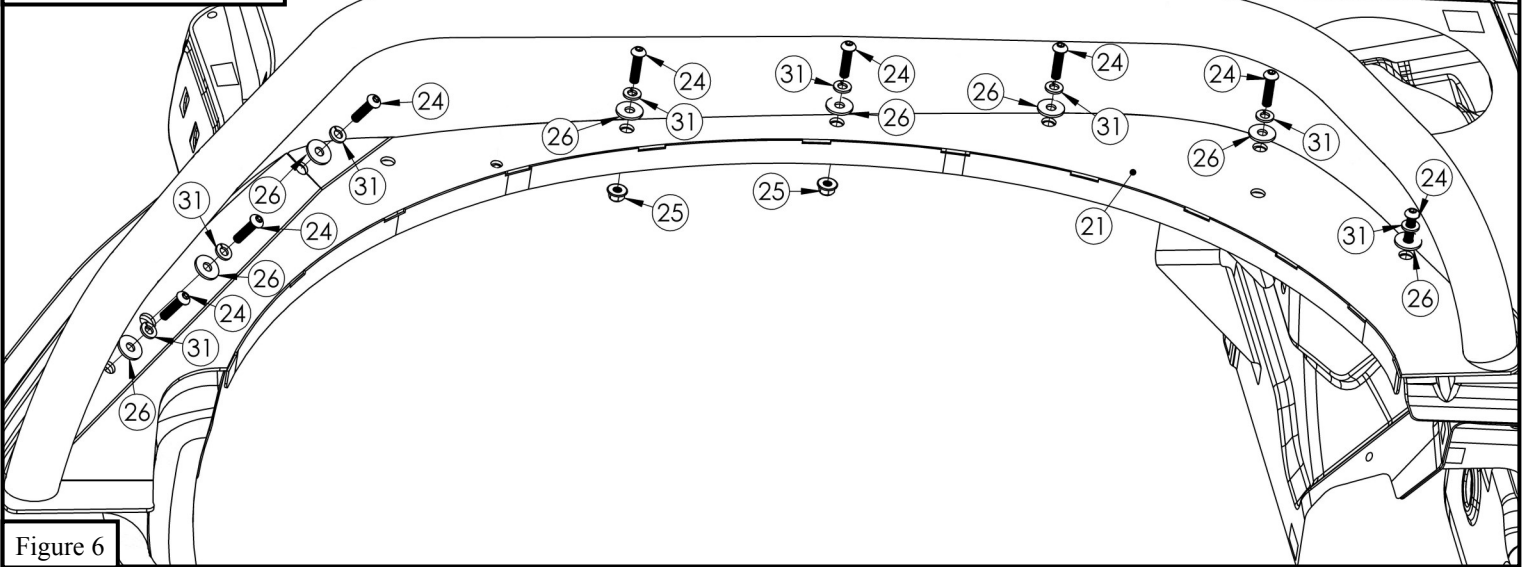

Figure 6
7. Align Rear Fender with the vehicles fender area and loosely secure using the provided M6 hardware. **Refer to Figure 6.**